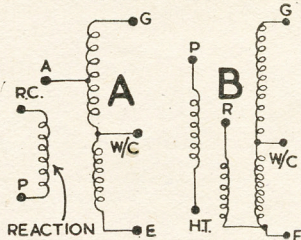
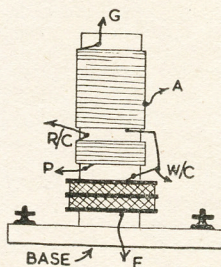

Fig. 1—Usual coil markings
Fig. 2—How windings are arranged
Some popular coils have a moulded base with small terminals. If the terminals have markings similar to those shown in Fig. 1, connexions can be identified easily. (A) shows the windings of the most popular type of coil for Long and Medium Waves, with Reaction and Aerial Tapping. Connexions are as follows: (G) to Detector Grid Condenser and Fixed Plates of Tuning Condenser; (A) to Aerial; (W/C) to Wavechange Switch; (E) to Earth; (R.C.) to Reaction Condenser, and (P) to Detector Plate. (The second terminals on both reaction condenser and wave-change switch will be connected to earth). With this type of coil no reaction will be obtained if the leads to the reaction winding are accidentally reversed.
Fig. 2 shows the way in which the majority of Long and Medium Wave Coils are wound. (If the coil has a metal screening can this should be lifted off for examination). In Fig. 2 the ends of the windings are marked to agree with (A) in Fig. 1, and are connected in the same
way. These ends will pass down inside the former and go to the various terminals. Therefore, by examining the coil in conjunction with Fig. 2, it will be possible to see which terminals form the various connexions and the terminals may be marked, or the numbers by them noted down.
Where coupling windings are included (B), Fig. 1) these are usually wound upon a strip of insulating material which has been placed round upon the windings, shown in Fig. 2. But sometimes the winding may be on the former itself, and in each case it should be quite